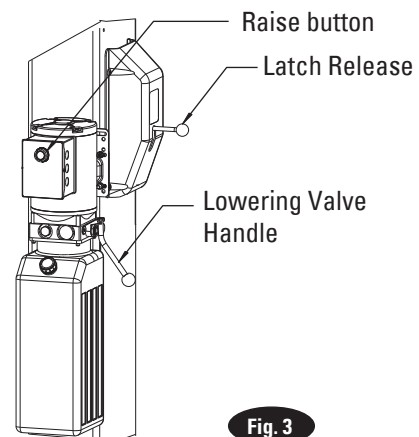

Fig. 3
- A. For all lifts. Push Raise switch on power unit, Fig. 3.
- D. Push lowering valve handle to lower, Fig. 3.